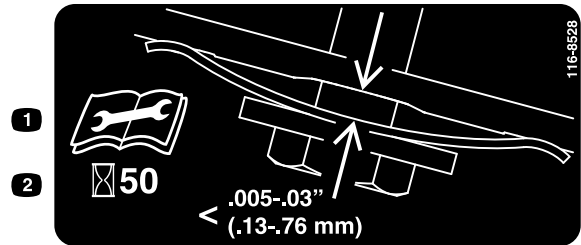

Figure 28
3. Hold a feeler gauge set between 0.13 and 0.76 mm (0.005 and 0.03 inches) against the wall and slide it down behind the belt tension spring; refer to Figure 28.